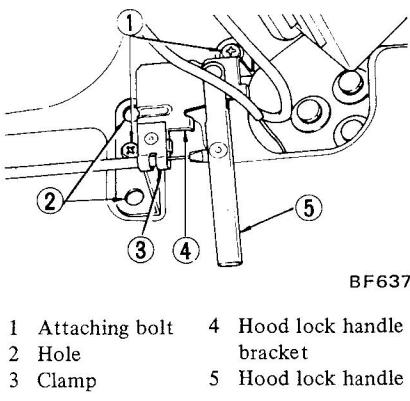

Fig. BF-15 Installing hood lock handle bracket
- (1) Check to be certain that cable clamps are tight and secure.
- (2) Install hood lock handle bracket in place by using two of four holes. See Figure BF-15.